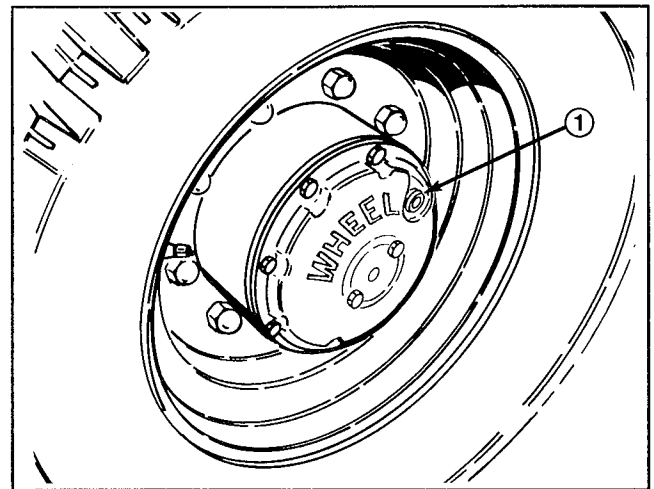

Figure 51
1. With machine on level surface, position wheel so the check/drain plug is at either three or nine o'clock position (Fig. 51).
3. When oil has drained, position wheel so plug hole is at three or nine o'clock position (Fig. 51).